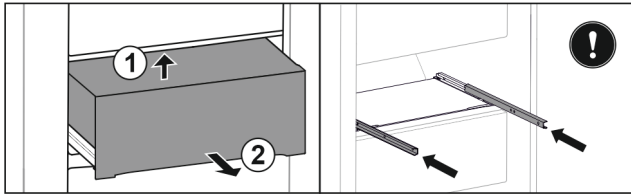

Fig. 107
- ▶ Lift drawer from below. Fig. 107 (1)
- ▶ Remove drawer to the front. Fig. 107 (2)